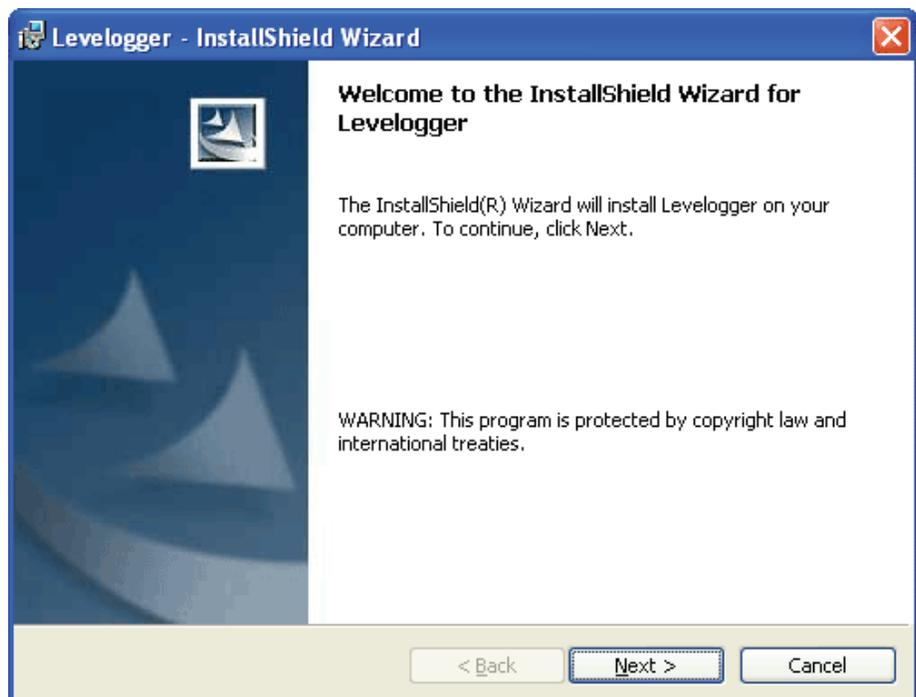

Figure 5-1 Levelogger - InstallShield Wizard
- At this point, Windows will prompt you through the remainder of the installation process. Figure 5-1 shows the Levelogger - InstallShield Wizard.